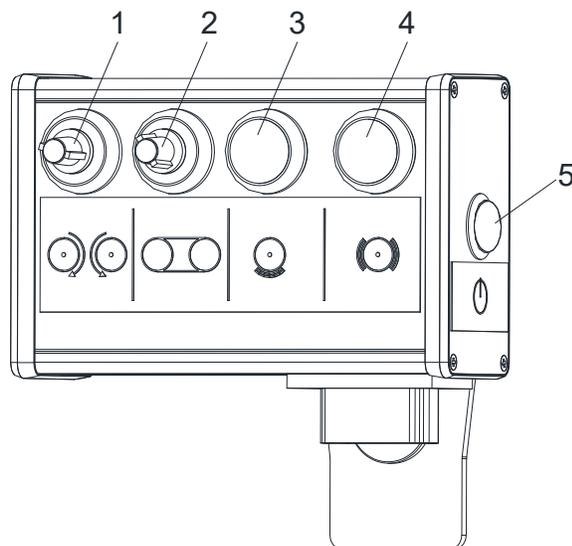

Fig. 46 PotiPro Compact (hybrid)
2. Press the On/Off illuminated button (Fig. 46/5). The PotiPro Compact operating device is switched on, the spreader discs start to rotate and accelerate up to the set speed.
3. If necessary, set the disc speed using the rotary control for disc speed (Fig. 46/1).
4. When the On/Off button for conveyor unit (Fig. 46/3) is pressed, the shutter is opened and the conveyor belt accelerates to the set transport speed.
5. When the On/Off button for conveyor unit (Fig. 46/3) is pressed again, the conveyor belt stops and the shutter closes.
6. If necessary, set the transport speed using the rotary control for conveyor speed (Fig. 46/2).
7. If you want to switch on the optional vibration motors, press the On/Off button for vibration motors (Fig. 46/4). The vibration motors remain running for 10 seconds and are then automatically switched off.